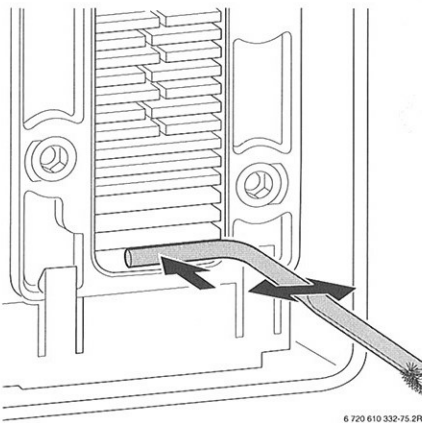

Fig. 49
- ▶ Flush the heat exchanger from the top. Refer to fig. 49.